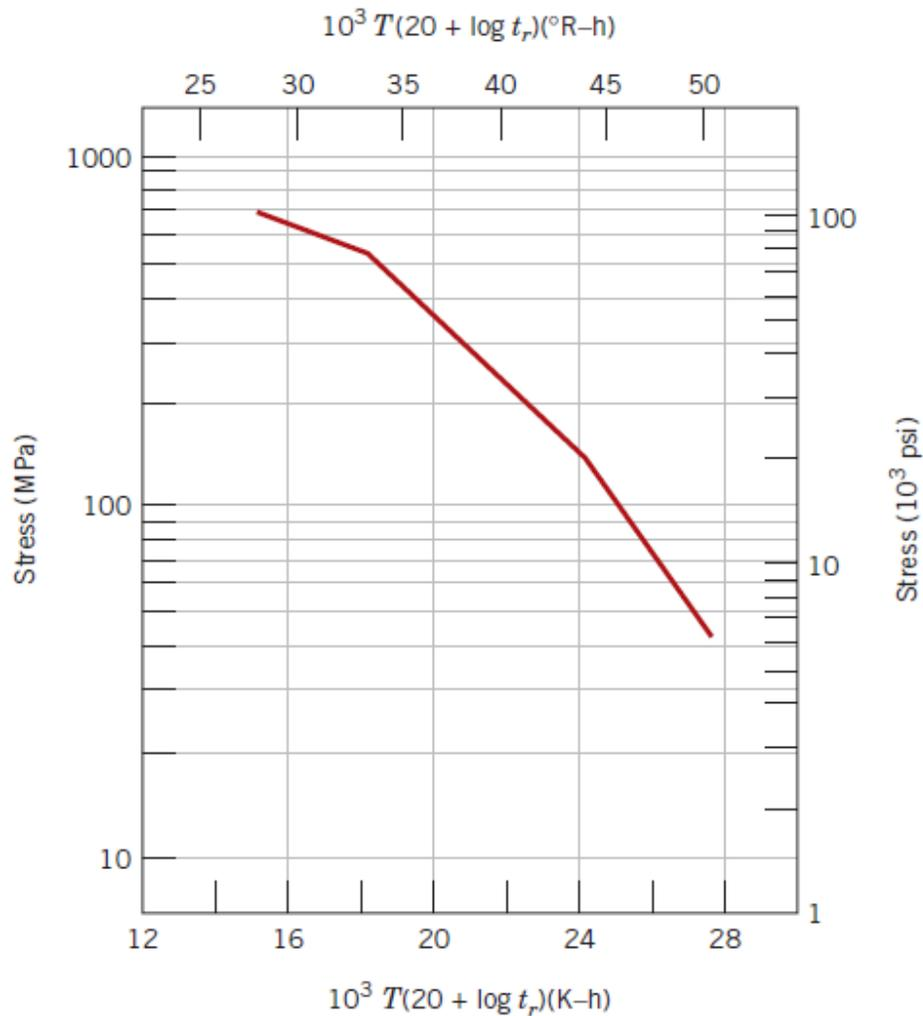

Fig.1 Logarithm stress versus the Larson–Miller parameter for an S-590 iron
1. An S-590 iron component (Fig.1) must have a creep rupture lifetime of at least 20 days at 650°C (923 K). Compute the maximum allowable stress level.
2. Consider an S-590 iron component (Fig.1) that is subjected to a stress of 55MPa (8000 psi). At what temperature will the rupture lifetime be 200 h?